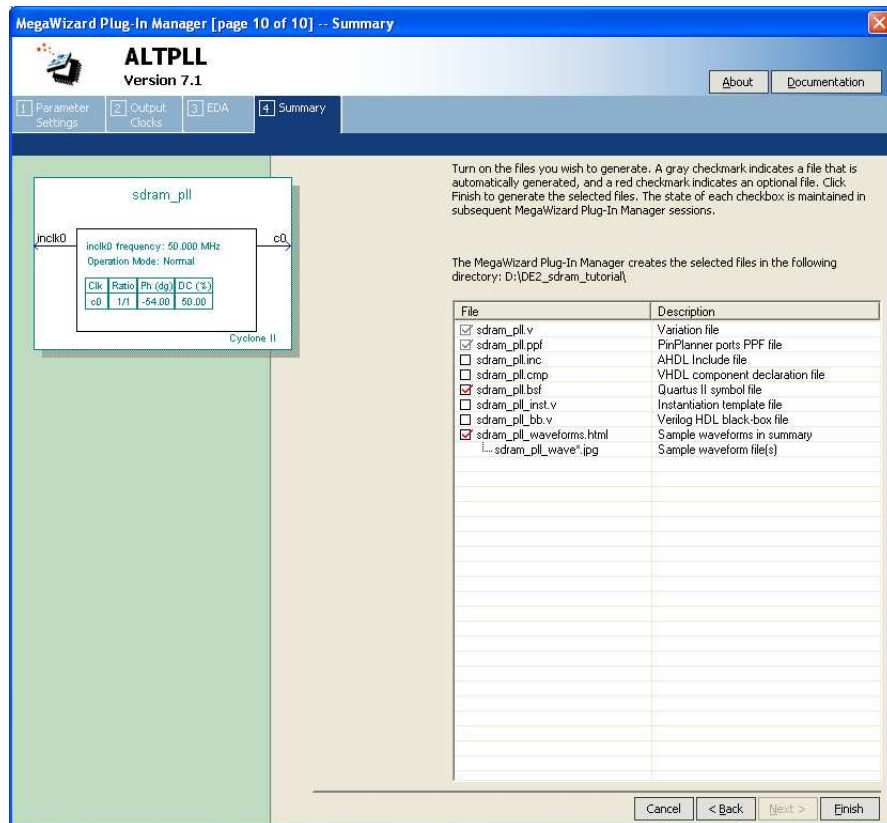

Figure 16. The summary page.
- In the summary window in Figure 16 click **Finish** to complete the process.